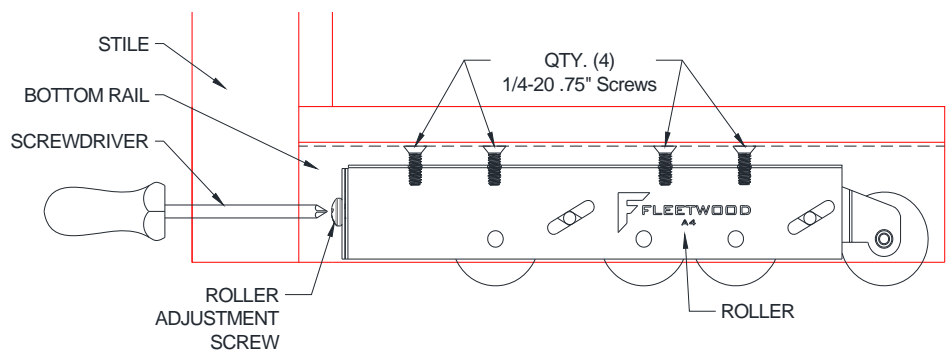

Figure 10:
- Adjust the rollers to the full up (into the extrusion) position using the adjustment screw (Figure 10). Add door bumper(s) to panel when finished adjusting rollers.
2. Verify that the weather stripping in the frame head is located so that it contacts the width of the “O” panel. To properly adjust rollers see Figure 10.